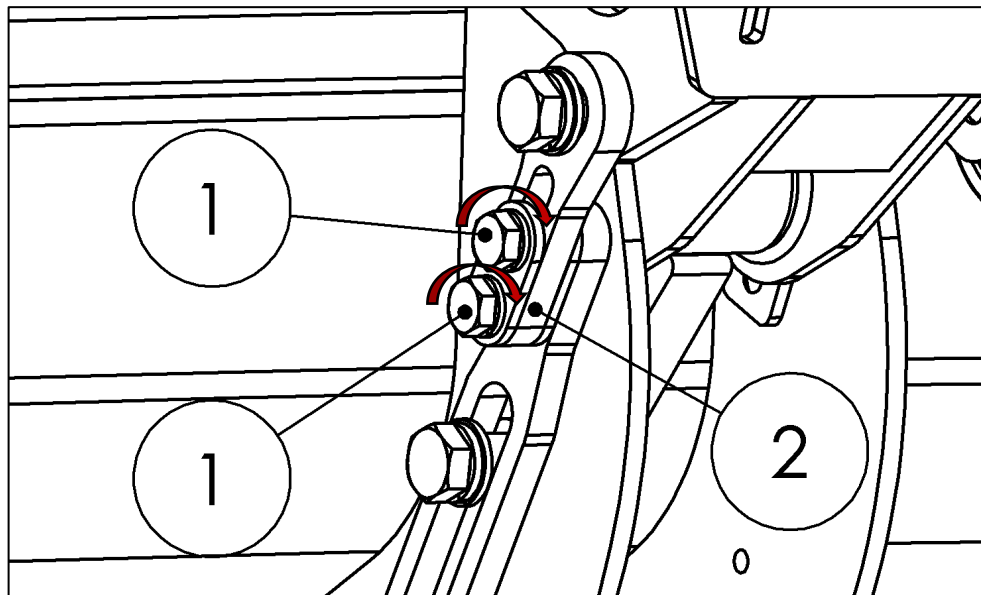

Fig. 78
- Retighten the 2 screws (1) on the clamping plate (2) on the platform stop to a torque of 195 Nm (see Fig. 78).